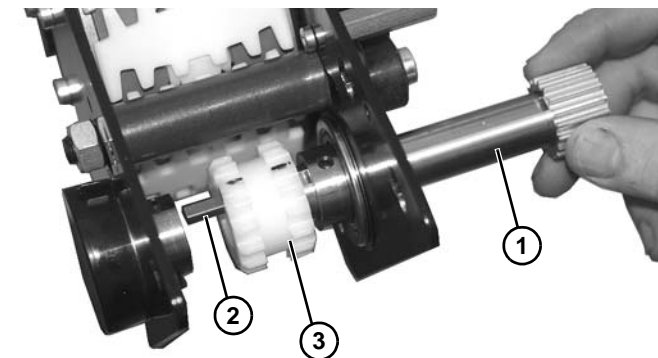

Figure 135
16. Remove drive shaft (**Figure 135, item 1**), making certain not to lose key (**Figure 135, item 2**) when removing gear (**Figure 135, item 3**).